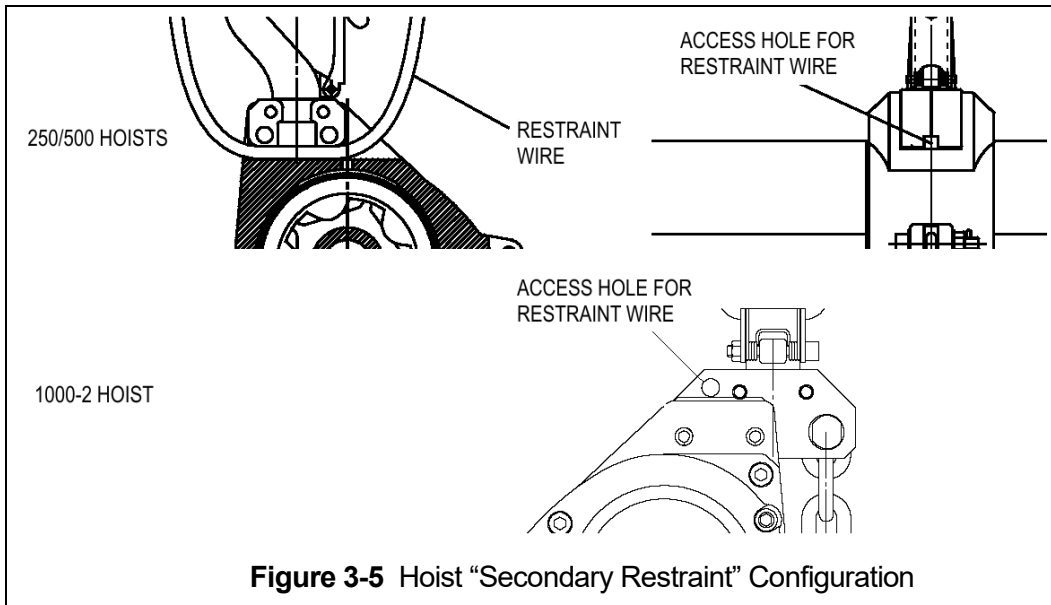

Figure 3-5 Hoist “Secondary Restraint” Configuration
- 3.8.2 For applications requiring a "Secondary Restraint" a "hole" has been provided in the hoist Top Hook Yoke. Reference Figure 3-5.
3.9.4 Make connections to air supply; reference Figure 3-5. Use a reducing adapter at the hoist valve section for hose sizes larger than 1/2".